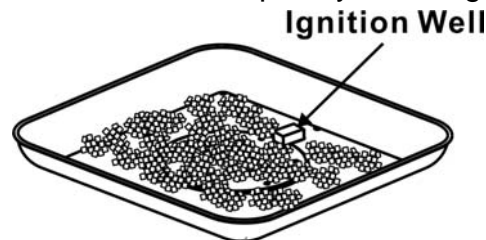

Figure 9
10. Pour the fire ices into the burner completely covering the burner. See Figure 9.